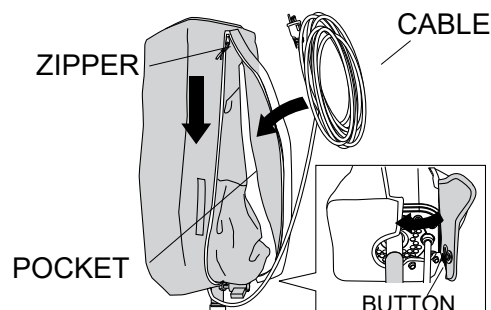

Figure 35. Storing Cable
3. Store the power cable inside the pocket of the protective cover. Zip up the protective cover and snap the buttons on the bottom of the protective cover (Figure 35).